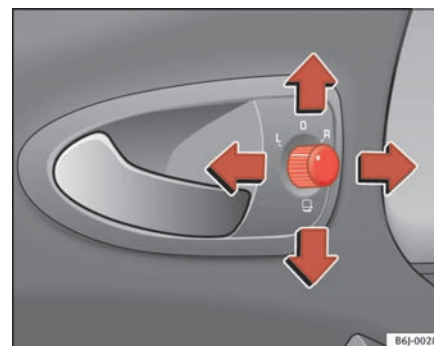

Fig. 64 Exterior mirror control
1. Turn knob ⇒ fig. 64 to position **L** (**left exterior mirror**).
- Turn the control ⇒ page 103, fig. 64 to position  to fold in the exterior mirrors. You should always fold in the exterior mirrors if you are driving through an automatic car wash. This will help prevent damage.